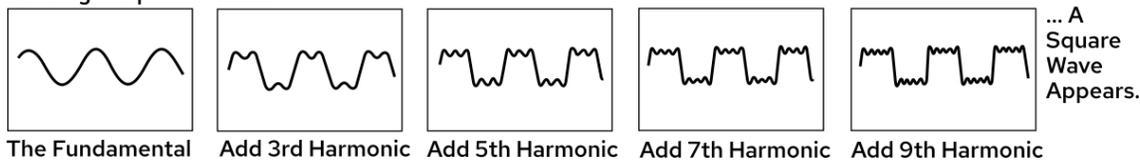

Figure 4. Building a Square wave by adding harmonics. Each frame adds one harmonic to the previous frame.
- It may take a few minutes for the program to start up. The program is ready when you have a window called Spectrum Analyzer and another called Time Scope (Figure 4). You may want to rearrange the screen to make these two windows easily visible.